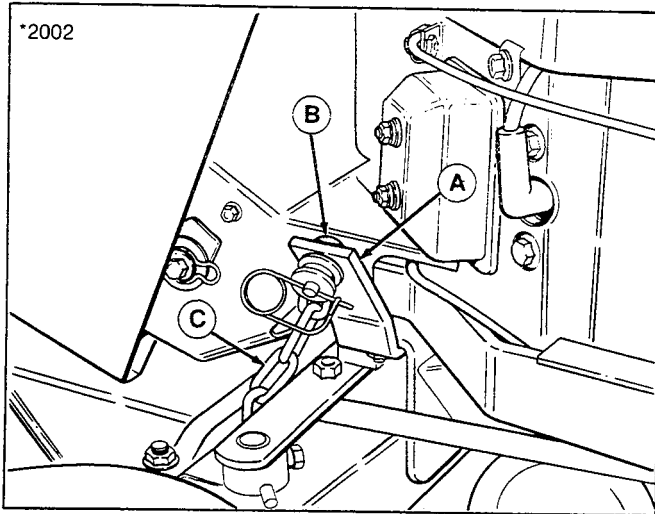

Figure 5. Install Spring Assist Bracket
On single cylinder tractors, clevis pin (B, figure 5) must be installed to bracket before mounting on tractor frame.
7. Place snowthrower in down position. Install the spring-assist bracket (A, figure 5) to tractor frame (bracket is mounted underneath frame). Secure with capscrew (from top), lockwasher, and nut. Place clevis pin (B) through bracket and install flat washer, chain (C), flat washer, and safety clip.